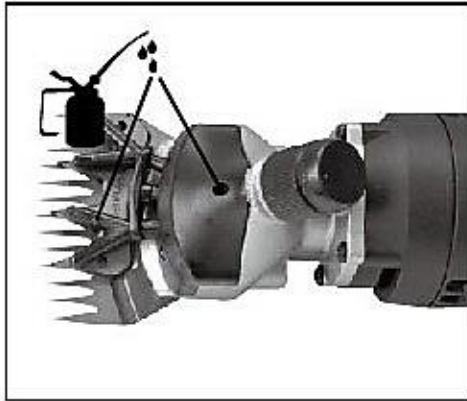

Fig. 1(Lubricant Oiling from the Hole on the Head Shell) (Hole 1 –fixed position; Hole 2 Top)
A thin layer of oil on the front and back blades is essential for good clipping. This will increase the life of the clipper and the blades. Refer to Fig 1
- 1.3 When blade adjustment is completed, connect up with the power supply, turn on the machine (see Fig. 1) and keep it running for 1 minute.
3. During work, lubrication oil should be added to the machine . When the machine runs 1-2 minutes, it should be oiled on blade once again . The oiling amount usually is 5-8 droplets. Apply lubrication oil to two holes on the machine hole after about thirty minutes of operation. The oiling amount in such case is usually 3-5 droplets (see Fig. 1).